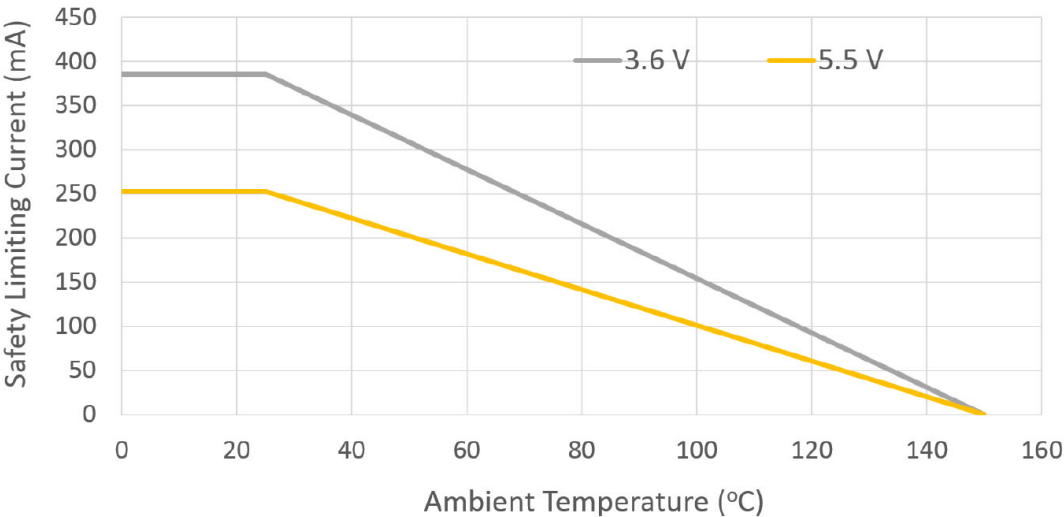
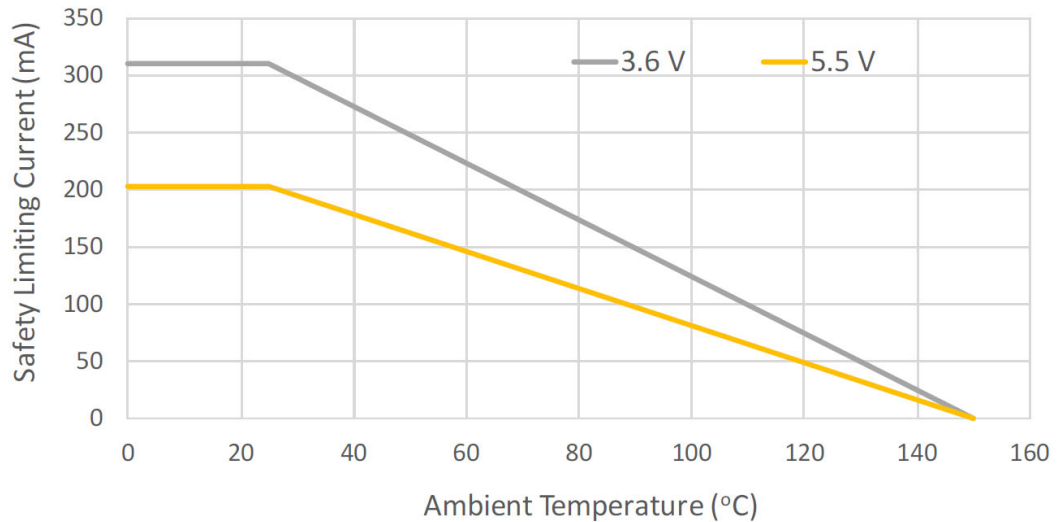

Figure 41. WB Stretched SOIC-8 Safety Current vs. Ambient Temperature Derating Curve
Figure 42. NB SOIC-8 Safety Current vs. Ambient Temperature Derating Curve
1. Maximum value allowed in the event of a failure. Refer to the derating curves Figure 41, "WB Stretched SOIC-8 Safety Current vs. Ambient Temperature Derating Curve," on page 18 and Figure 42, "NB SOIC-8 Safety Current vs. Ambient Temperature Derating Curve," on page 18.